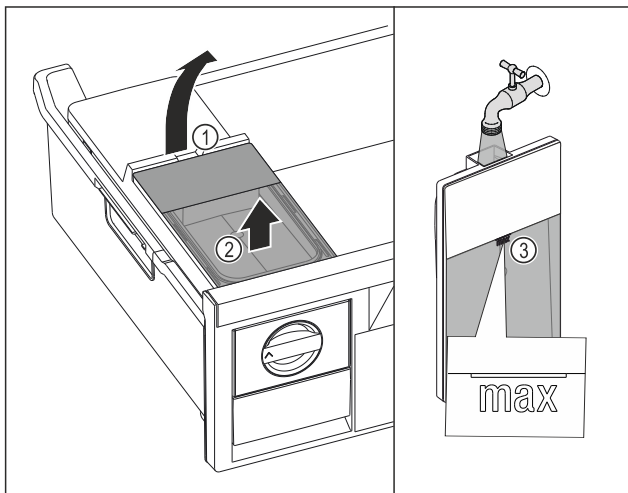

Fig. 126
- Lift the water tank at the recess Fig. 126 (1).
- Remove the water tank by lifting it upwards. Fig. 126 (2)
- Fill the water tank with drinking water up to the mark Fig. 126 (3).